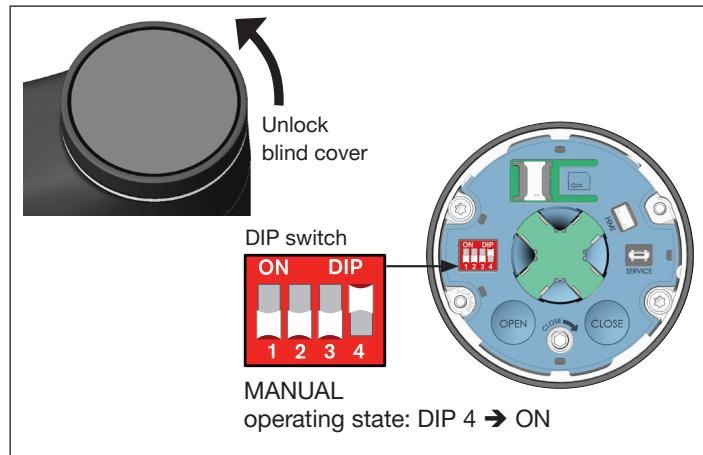

Fig. 26: Set MANUAL operating state
- Set DIP switch 4 to ON. The device is in MANUAL operating state (see "Fig. 26").